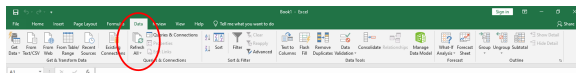

Figure 16. Excel Data window Select From Text in the left.
2. Open a new workbook and go to the **Data tab** and select (Figure 16).